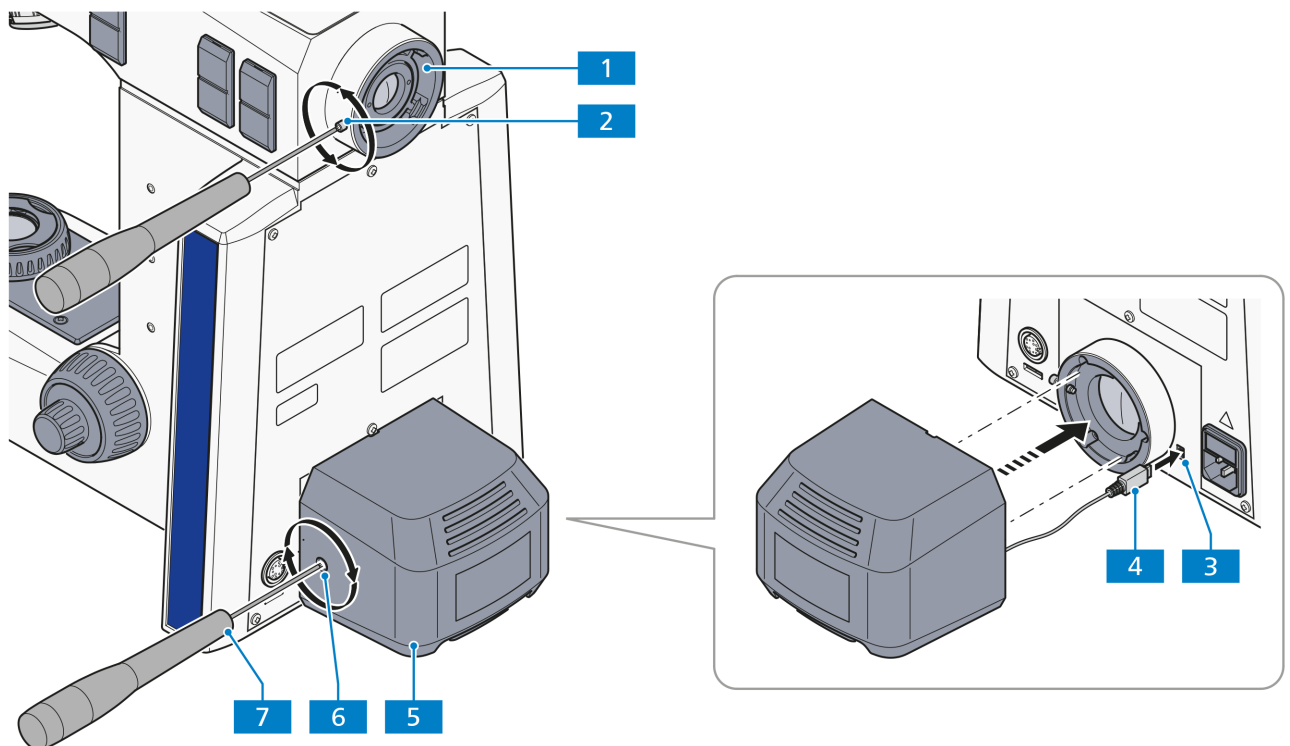

Fig. 3-27 Mounting the TL LED10 illuminator or RL LED10 illuminator
- Using the Allen wrench (AF 3) (Fig. 3-27/7), loosen the clamping screw (Fig. 3-27/6) of the TL illumination connector (Fig. 3-27/1) or the RL illumination connector (Fig. 3-27/2) at the lower back of the stand.
- Connect the illuminator's power plug (Fig. 3-27/4) to the socket (Fig. 3-27/3) on the lower part of the stand (or the upper part of the stand).